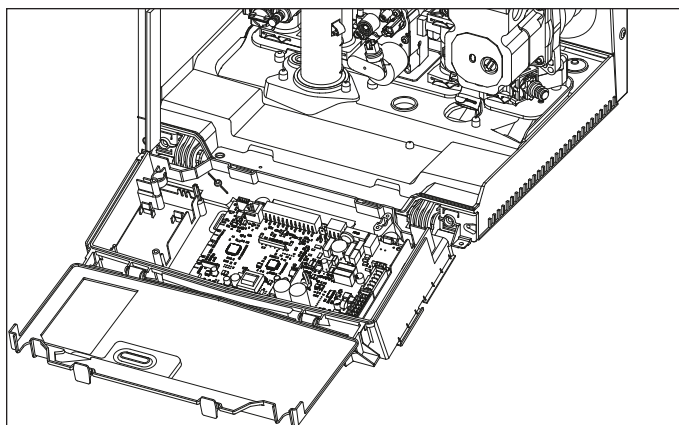

Figure 68 - 120V Connections for DHW and CH Circulators
3. Connect the room thermostat wires to the terminals indicated in Table 19 and Figure 68.